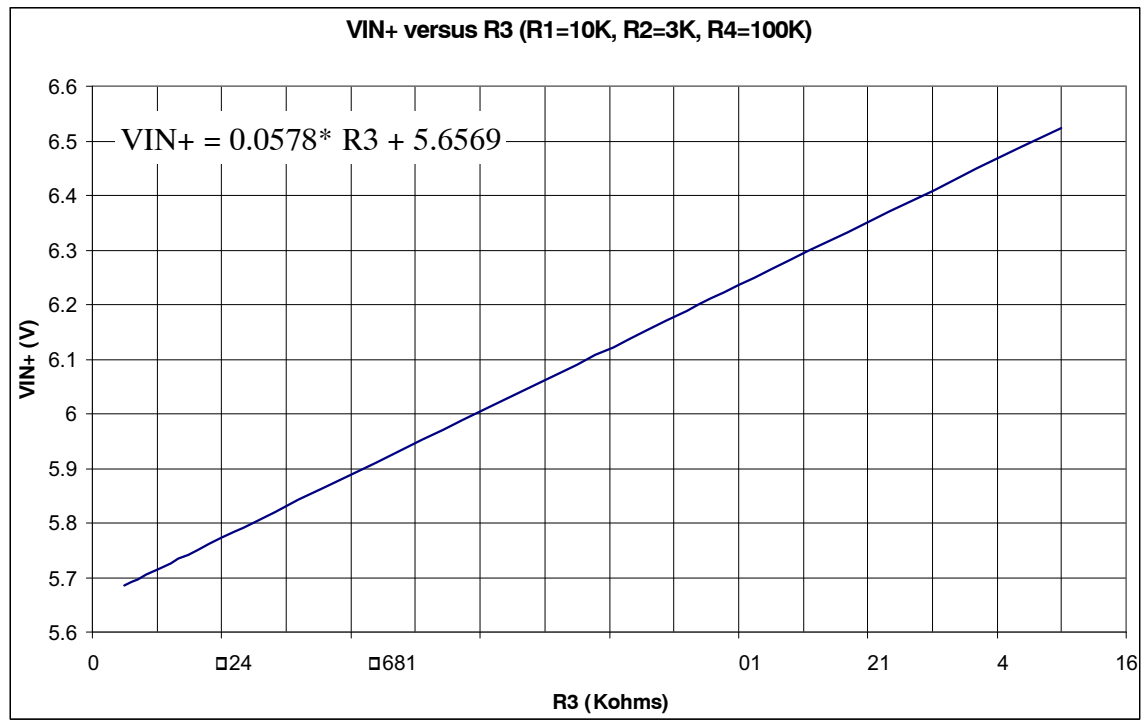
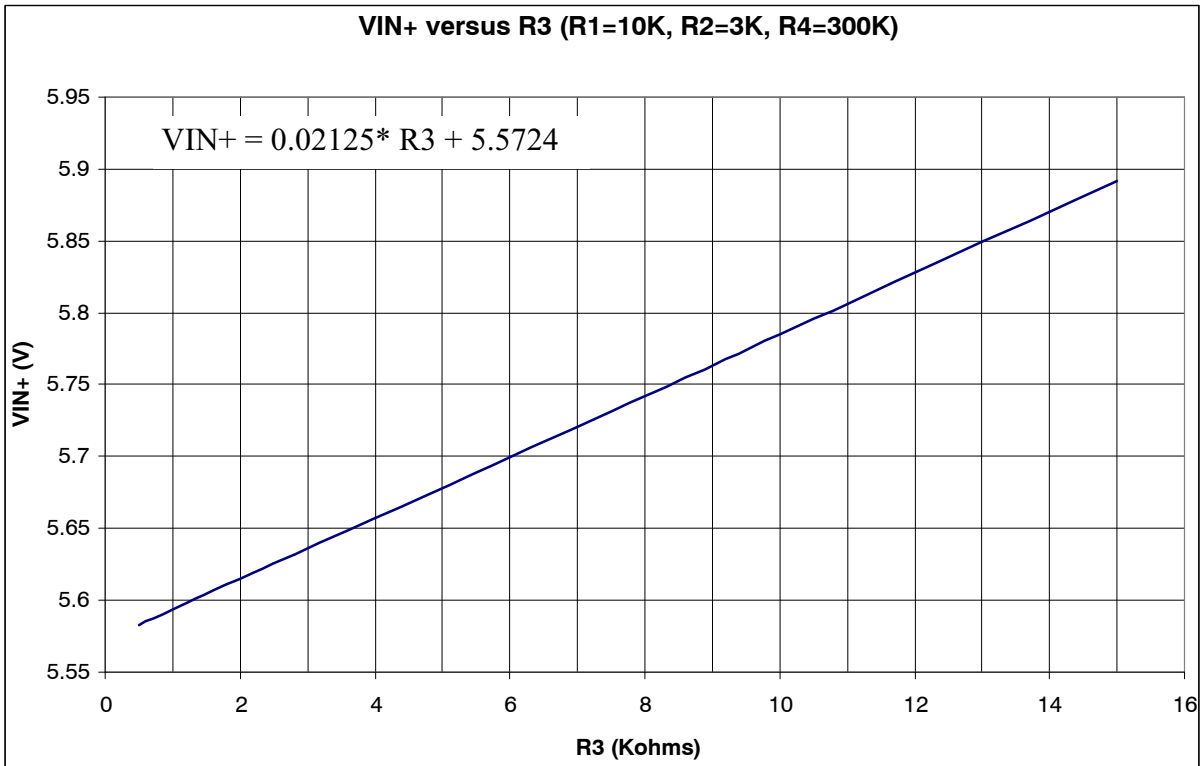
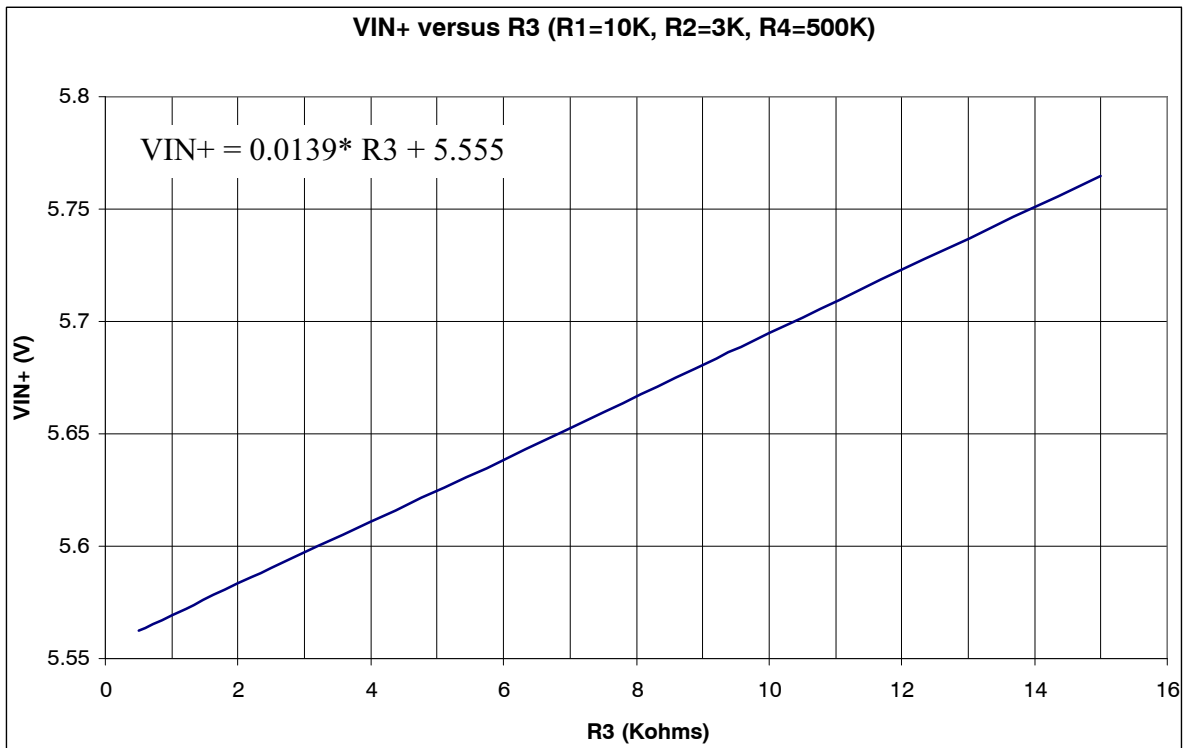

Figure 5. Chart for V_{IN+} versus R3
Figure 11. Chart for V_{IN+} versus R3 (R4 = 300k)
Figure 13. Chart for V_{IN+} versus R3 (R4 = 500k)
4. From Figure 5 (if $R_4 = 300k$, use Figure 11. If $R_4 = 500k$ use Figure 13) chart with make use of the equation provided, evaluate $V_{IN+'}$ based on the R_3 which is defined at step 3, say $V_{IN+'}$. It should be noted that the $V_{IN+'}$ value here is NOT the one that will be used, it is just for intermediate value to proceed the calculation.
Step 4: From the Figure 5 chart with make use of equation, we have